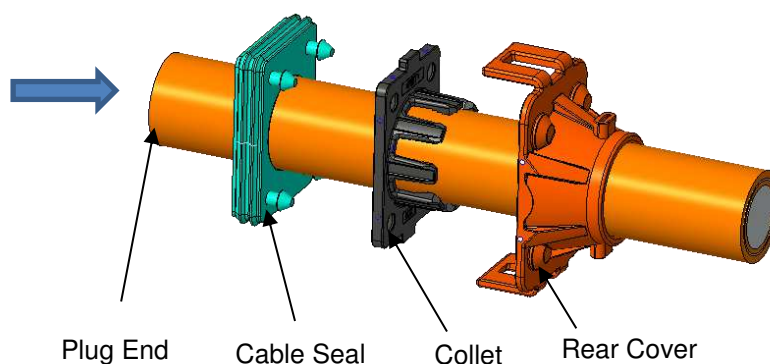

Figure 3: Rear cover, collet, and cable seal loaded on cable.
1. From the plug end of the cable, slide the rear cover, collet, and cable seal in the order and orientation as shown in Figure 3.